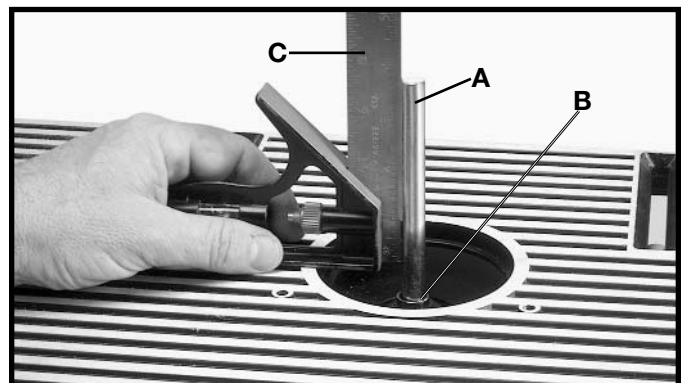

Fig. 23
3. Insert a “straight” section of 1/2-inch diameter metal rod, (A) Fig. 23, which is at least 6 inches in length, into router collet (B) and tighten collet (B) as you would a router bit.
4. Using a square (C) Fig. 23, either on the right or the left side of the table, place one end of the square against the metal rod (A) as shown. Check to see if metal rod (A) is 90 degrees (left and right) to the table surface. If an adjustment is necessary, proceed as follows: